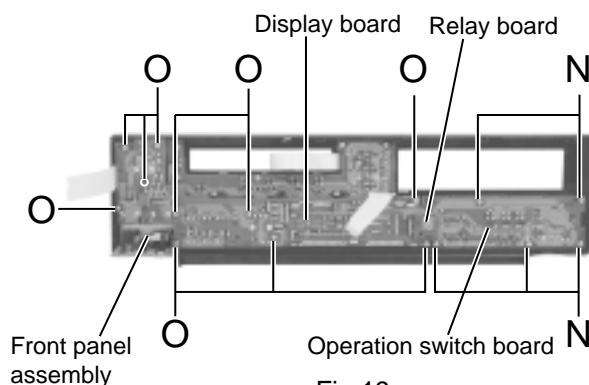

Fig.19
**■Removing the operation switch board / the display board (See Fig.19 and 20)**